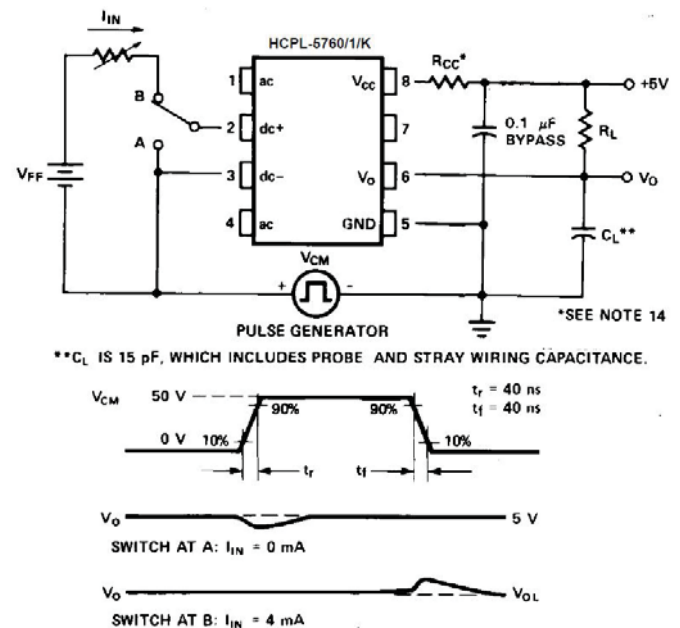

Figure 8. Test circuit for common mode transient immunity and typical waveforms.
- Common mode transient immunity in Logic High level is the maximum tolerable  $dV_{CM}/dt$  of the common mode voltage,  $V_{CM}$ , to ensure that the output will remain in a Logic High state (i.e.,  $V_O > 2.0\text{ V}$ ). Common mode transient immunity in Logic Low level is the maximum tolerable  $dV_{CM}/dt$  of the common mode voltage,  $V_{CM}$ , to ensure that the output will remain in a Logic Low state (i.e.,  $V_O < 0.8\text{ V}$ ). See Figure 8.